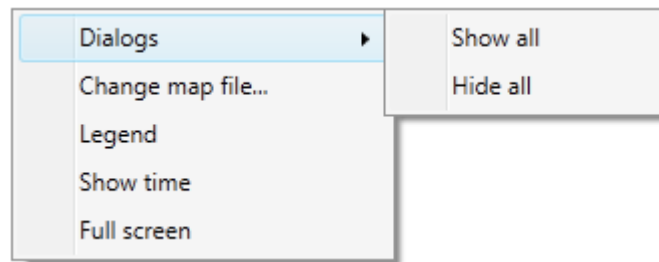

Figure 3—21: Display options
- For other display options as shown in Figure 3—21, right click on the map.